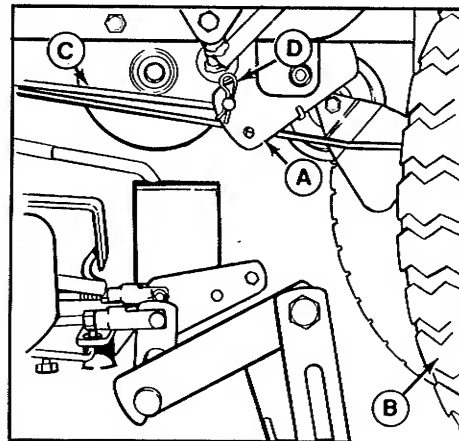

Figure 5B. PTO Rod
- Attach the PTO rod to the tractor PTO lever in hole marked "MOW" with the spring clip provided (figure 5B).